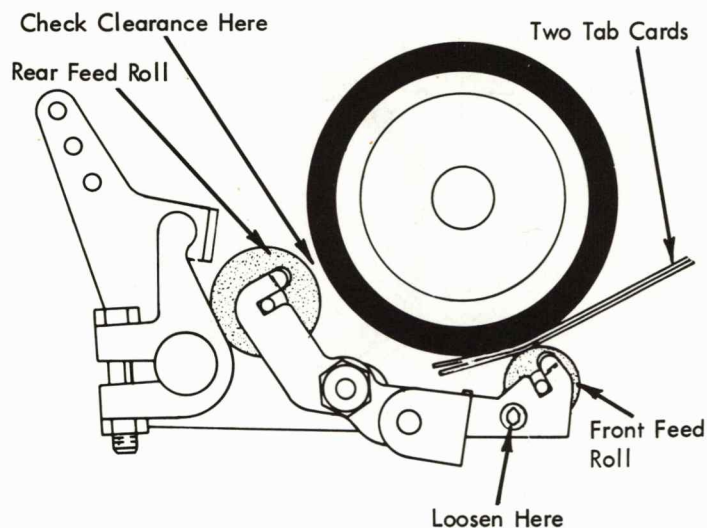

FIGURE 190. Feed Roll Adjusting Arm (New Style)
- Late - The front feed roll adjusting arms should be adjusted as follows: When two tab cards are placed between the front feed rolls and the platen, the rear feed rolls should clear the platen (Fig. 190). When one tab card is placed between the front feed rolls and the platen, the rear feed rolls should touch the platen.